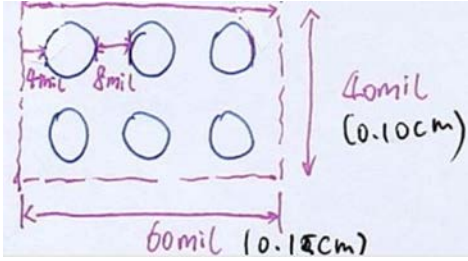

Figure 3: One Way of Placing Vias, in a 2 by 3 Array
**Via Placement:** One way of placing the vias is as shown in Fig. 3. We used minimum via spacing of 8mils, and it can be shown that the vias take only approx.  $0.015 \text{ cm}^2$ . If we use hexagonal instead of in-grid placements, we can possibly fit even more. Nevertheless this is just to prove that the  $1\text{cm}^2$  area we're given is more than enough to fit the vias.